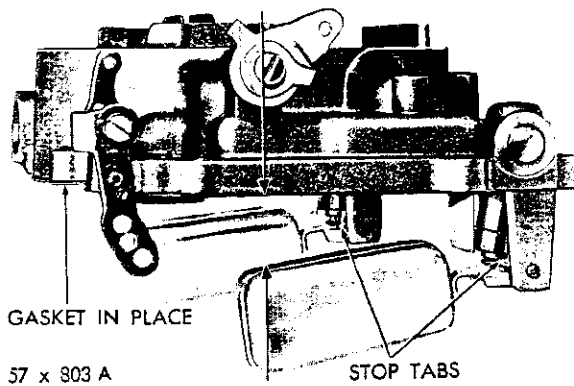

Fig. 12—Testing the Float Drop
(1) Holding the air horn in an upright position, measure the distance from the top of the floats (outer end) to the air horn gasket, as shown in Figure 12. This measurement should be $\frac{3}{4}$ inch. If an adjustment is necessary, bend the stop tabs on the float levers until the correct drop setting has been obtained. Bend the tab towards the needle seat to lessen the drop, or away from the seat to increase the drop.
(2) After the floats have been adjusted, continue to assemble the carburetor as follows:
(3) Place the accelerator pump plunger lower spring in the pump cylinder, then lower the air horn carefully down on the main body.